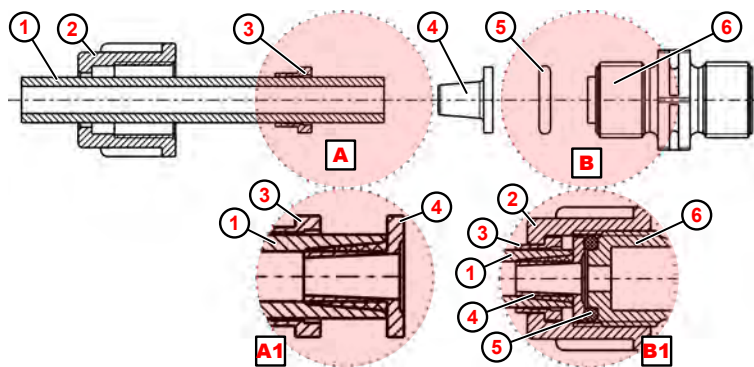

Fig. 7: Pipe-to-hose connection with tapered part
1. ➤ Cut off the hose with a straight cut (Fig. 7 , ①).
2. ➤ Slide the union nut ② over the hose ① .
3. ➤ Slide the clamp ③ over the hose ① .
4. ➤ Slide the hose ① onto the tapered part ④ up to the stop collar (for details, Ⓐ1).
5. ➤ Slide the tensioning piece ③ towards the tapered part ④ until you feel resistance.
6. ➤ Place the o-ring ⑤ in the groove of the suction or pressure valve ⑥ .
7. ➤ Tighten the union nut ② (for details, see Ⓑ1).